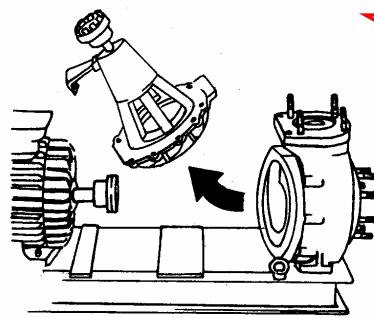
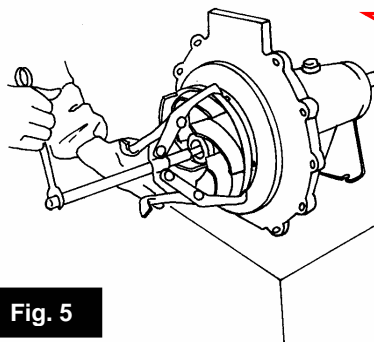

Fig. 4
Fig. 5
- 6) In order to replace the mechanic seal, the support ball bearings, the impeller and the O-rings, it is necessary to disassemble the whole group without necessarily removing the whole pump and the motor from the base **fig. 4. (only CGD series)**. Having lifted the whole group formed by the above parts, rest it on a work bench and begin the disassembly operation.
- 7) Unscrew (right-hand thread) the plastic ogive (pos. 17) and afterwards the metal nut (pos. 33). In order to proceed correctly, it is recommended to block the impeller (pos. 8) holding it at the disc with a strip wrench, thus avoiding direct contact with the blades which, if over-stressed, could break.
- 8) Extract the impeller from the shaft (pos. 9) with the help of a special extractor **fig. 5**.
- 20) Position the support horizontally the rotor, insert the splash guard on the shaft (pos. 41) with the o-ring (pos. 42) and afterwards the covering liner (pos. 16) with the mechanical seal.
- 21) House the seal-flange (pos. 47) in the body lid (pos. 7) and assemble the two pieces coupling them with the rear armature (pos. 2).
- 22) Press the impeller (pos. 8) into the shaft (pos. 9) fixing it with the metal nut (pos. 33) and with the ogive (pos. 17).
23) Assemble the pump-body (pos. 6) with the metal armature (pos. 3); joint the group to the support by clamping the parts with the steel nuts (pos. 34). If the pump-body has not been removed during the disassembly operation and is still fixed to the base, house the support by making a movement contrary to the one shown in figure 4.
24) Press the impeller (pos. 8) onto the shaft (pos. 9) fixing it with the metal nut (pos. 33) and with the ogive (pos. 17).
25) Assemble the pump-body (pos. 6) with the metal armature (pos. 3); joint the group to the support by clamping the parts with the steel nuts (pos. 34). If the pump-body has not been removed during the disassembly operation and is still fixed to the base, house the support by making a movement contrary to the one shown in figure 4. **(Only CGD series).**